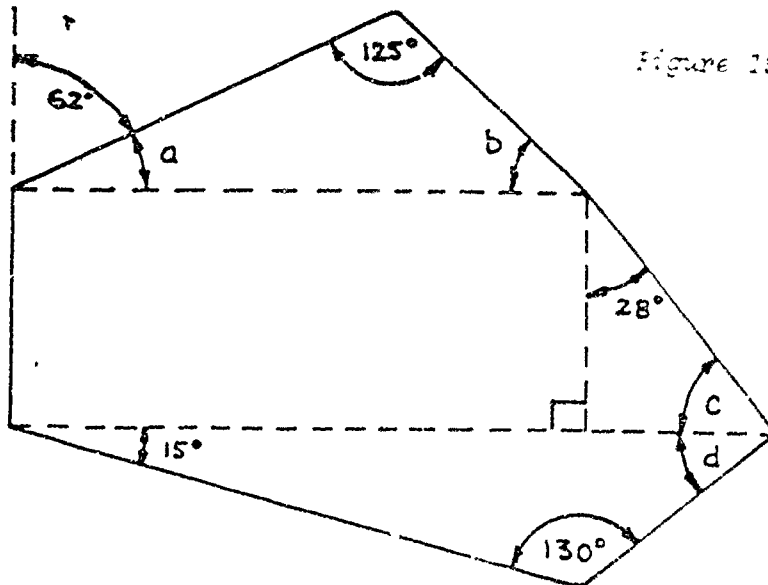

Figure 19: Find the missing angles a , b , c , and d .
(1) 0.432 radians = _____
(2) 0.714 radians = _____
(3) 1.521 radians = _____
4. You are given the sketch shown below in Figure 19. Your Instructor wants you to find the missing angles.